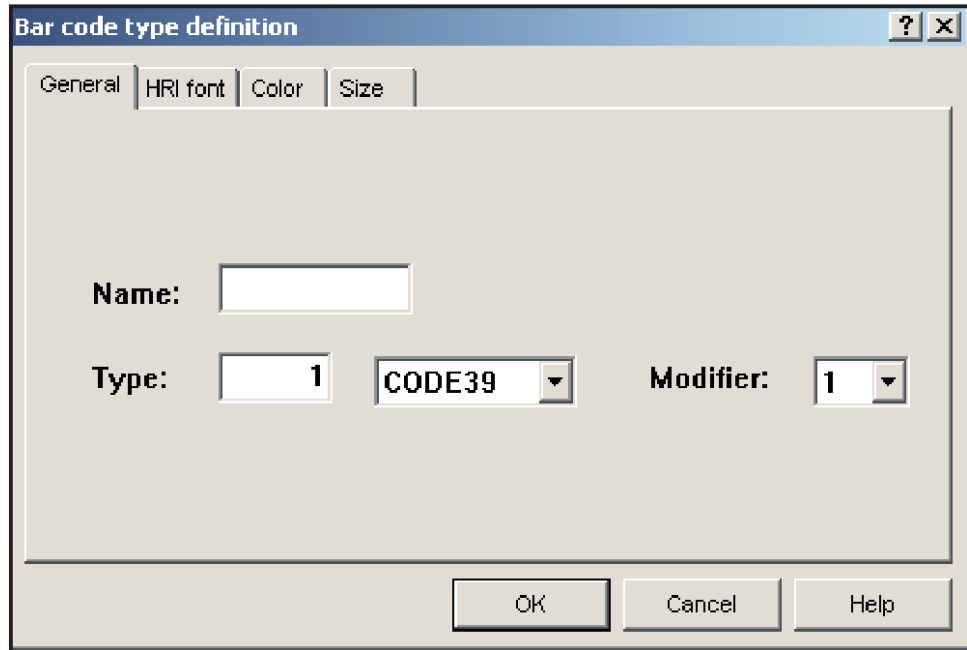

Figure 43. Defining the Bar Code
2. The **Bar code type definition** window opens, shown in Figure 43 on page 106. Use the pages on this window to specify the bar code's name, type, modifier,